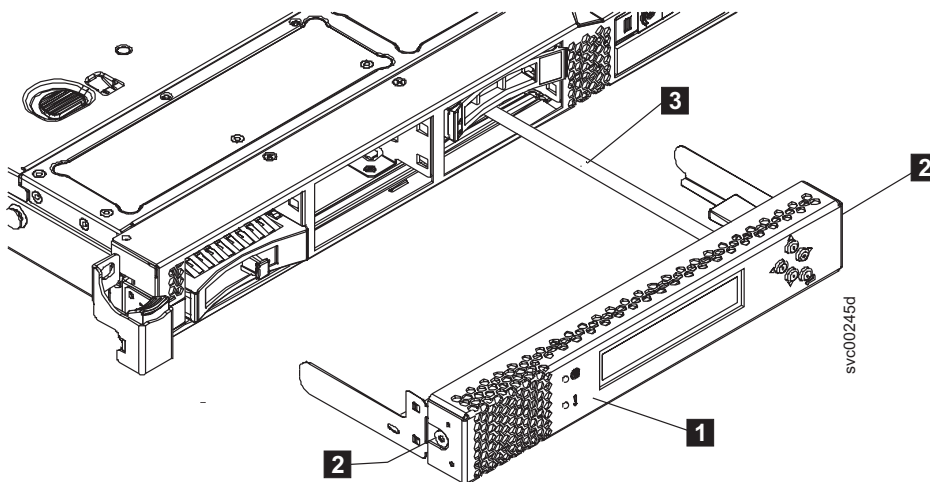

Figure 113. Service controller for the SAN Volume Controller 2145-CF8 with attached USB cable
5. If the service controller ( **1** in Figure 113) is in place, press the release buttons ( **2** ) on each side of the service controller assembly to release the service controller from the node, but do not disconnect the USB service controller cable. Slide the service controller from the node and support it somewhere, if possible, or gently suspend the service controller from the service controller cable.